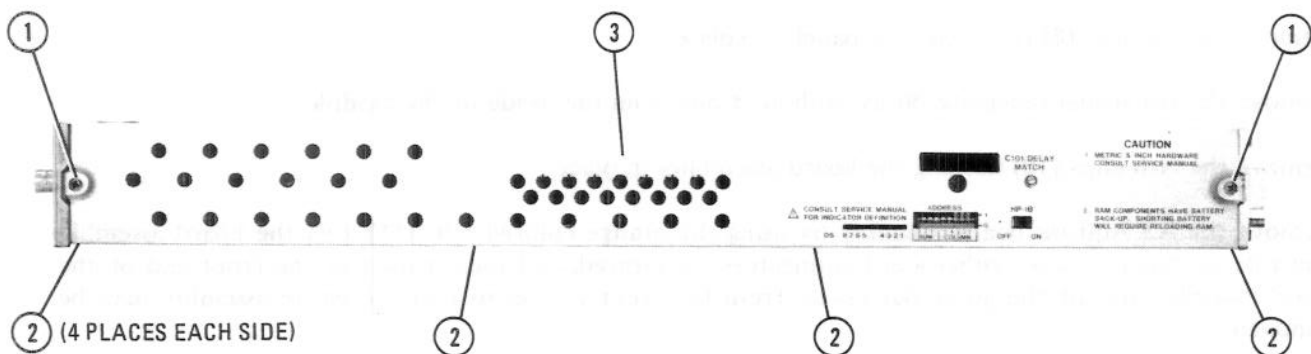

Figure 5-1. Top Cover Replacement
1. Remove two screws (1) from the top of the cover (one near the front of the module, and the other near the back). See Figure 5-1.
2. Remove eight screws (2) from the sides of the cover, four on each side along the bottom edge of the module.
3. Remove the top cover (3) from the module by grasping it and lifting the entire top cover upwards.